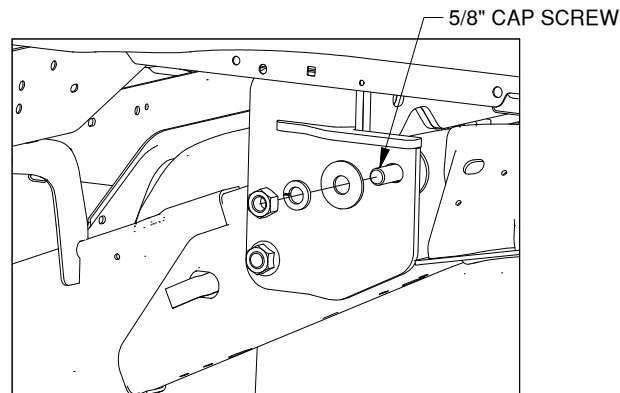

Figure H4: Looking at driver side frame.
4. **Secure side plate.** Push the longer 5/8" cap screw that is positioned in the frame, through the side plate. Secure it with a flat washer, lock washer, and nut, as shown in Figure H4.